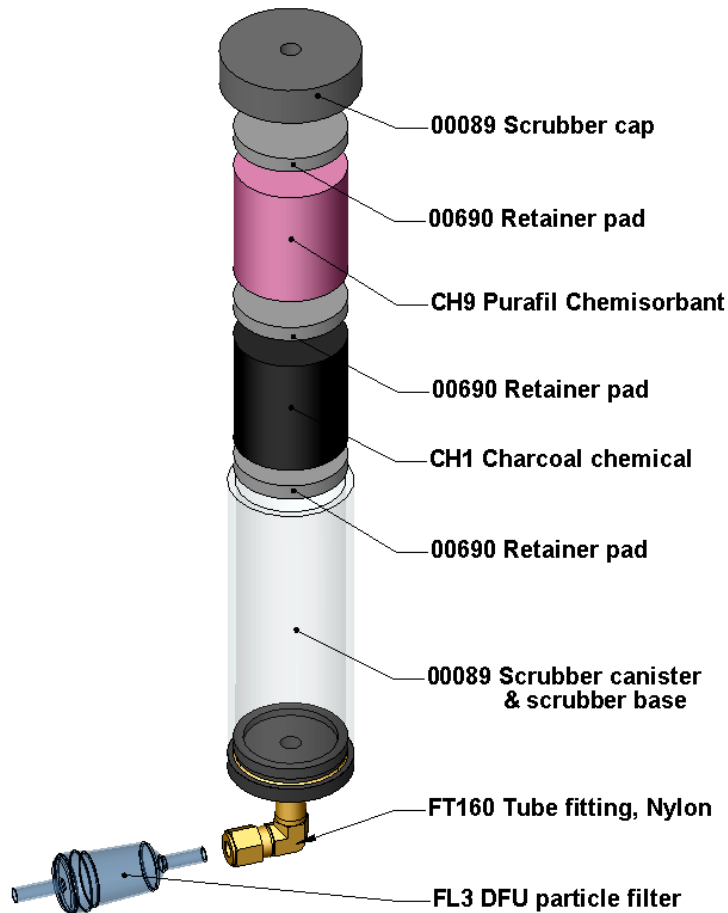

Figure 9-4: Zero Air Scrubber Assembly
A similar procedure applies to the same *DFU* particle filter that is used in the optional IZS zero air scrubber assembly (Figure 9-4). To change this filter, simply disconnect the tube and fitting from one end and remove the filter from the scrubber cartridge. Insert a new filter and attach the tubing. Make sure that the embedded small arrow points in flow direction.
- Locate the scrubber on the outside rear panel. Figure 3-3 shows the location; Figure 9-4 the exploded assembly.
- Refill the scrubber with charcoal at the bottom and the Purafil[®] chemical at the top and use three, white retainer pads to separate the chemicals as shown in Figure 9-4.